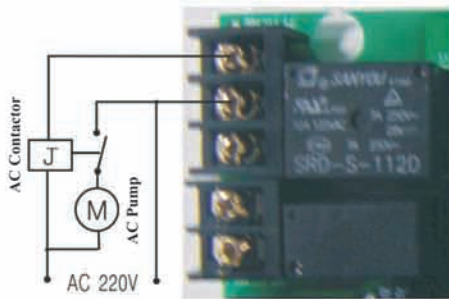

Figure 3-8 Wiring of Booster Pump on Inlet
**Instruction:** If inlet water pressure is less than 0.15MPa, which makes backwash or brine drawing difficult, a booster pump is suggested to be installed on inlet. Set control mode as b-01. When system in regeneration cycle, booster pump opens, the wiring refers to Figure 3-7. If the booster pump current is bigger than 5A, system need to install an contactor, the wiring refers to Figure 3-8.